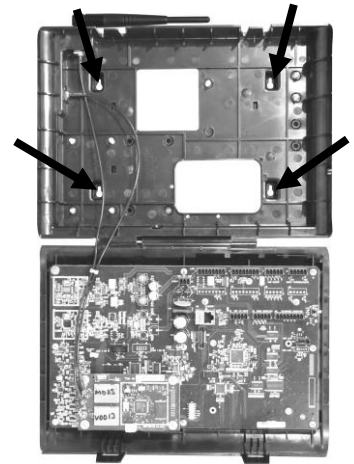

Figure 14. Open base station showing four screw holes
- Hold the base station against the wall, with its door open, and mark the wall through the four screw holes on the back of the cabinet, shown in Figure 14.